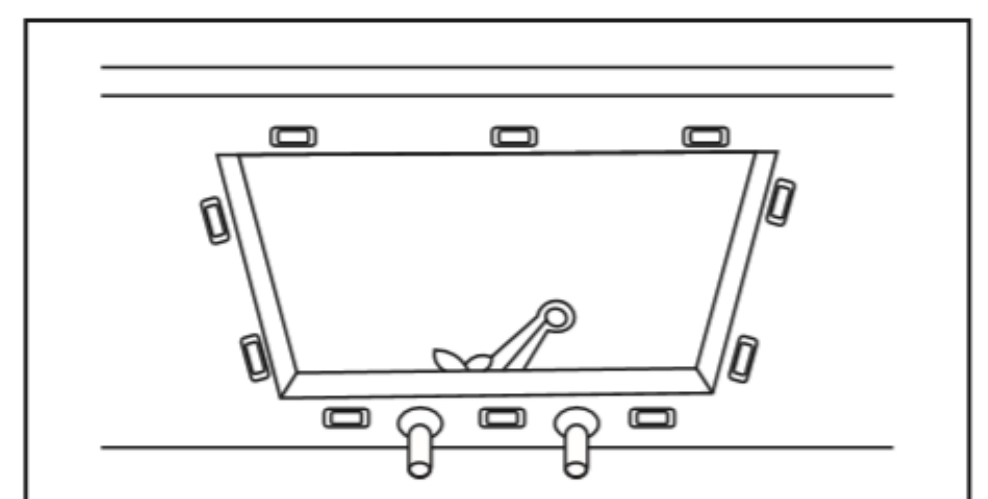

FIGURE 3
5.Locate the drill holes on the underside of the counter-top, approximately 1"from edge of the sink to be installed. Holes should be evenly spaced approximately 6" to 8"apart starting from every corner as shown in(FIGURE 3). It is recommended to install a faucet at this point before installing the sink.